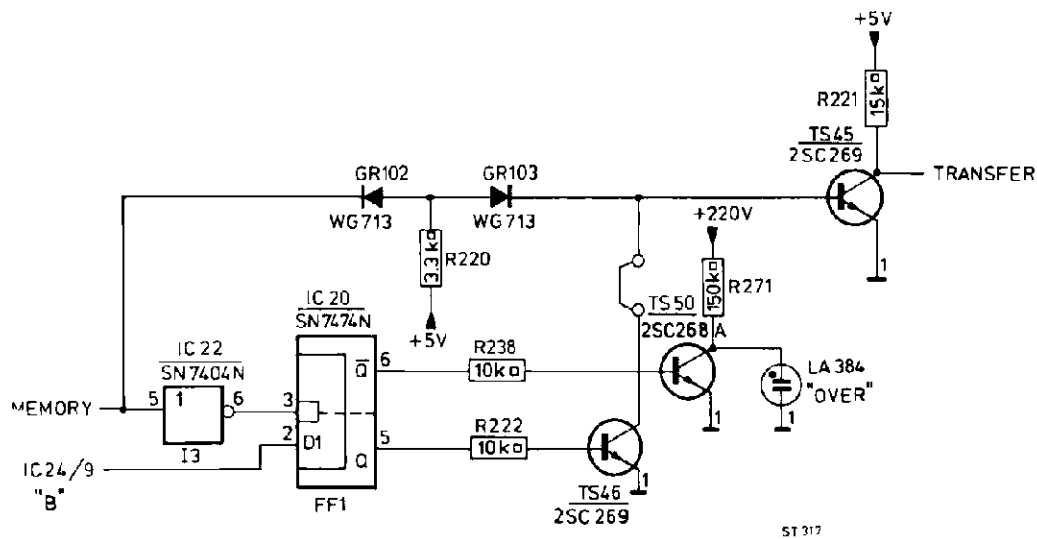

Fig. 18. Transfer pulse and OVER display circuit
4. Transfer pulse and OVER display circuit (Fig. 18)